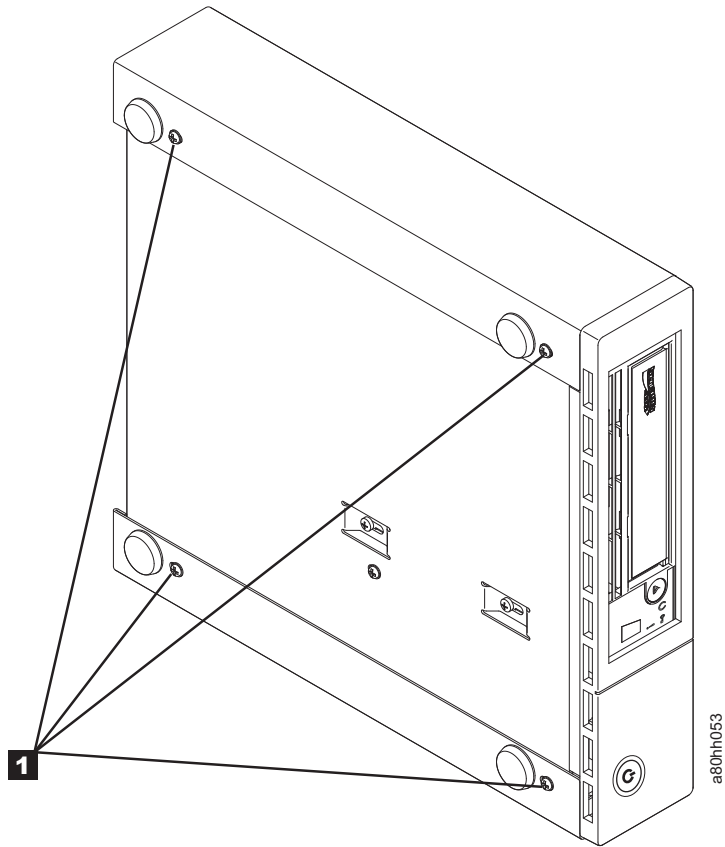

Figure 31. Removing the screws that secure the cover and internal drive
4. Remove the 4 screws ( **1** in Figure 31 on page 84) by the feet.